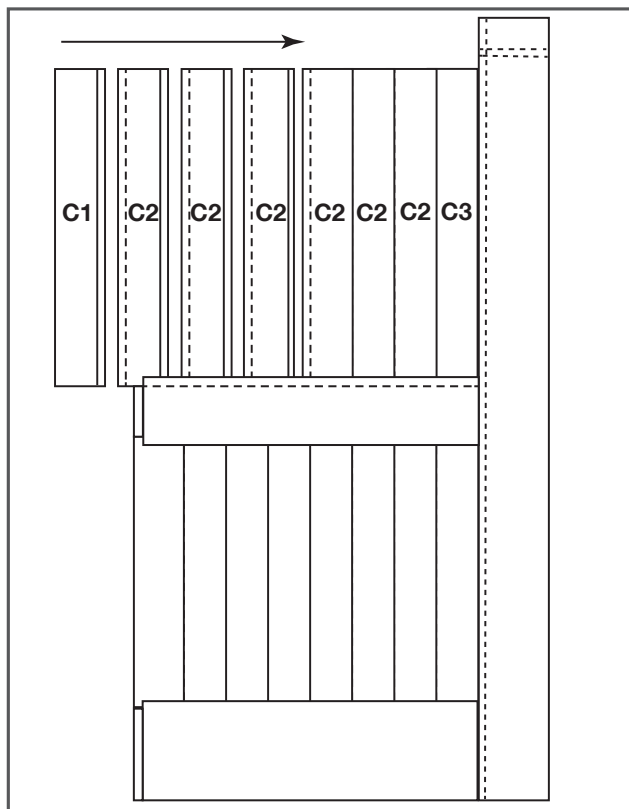

Figure 4
4. Beginning with the upper right side slat (C3) slide the upper slats (C2) into the groove of the center rail (A3) one at a time, ending with the upper left side slat (C1). Tap each in place with the rubber mallet (Figure 4).